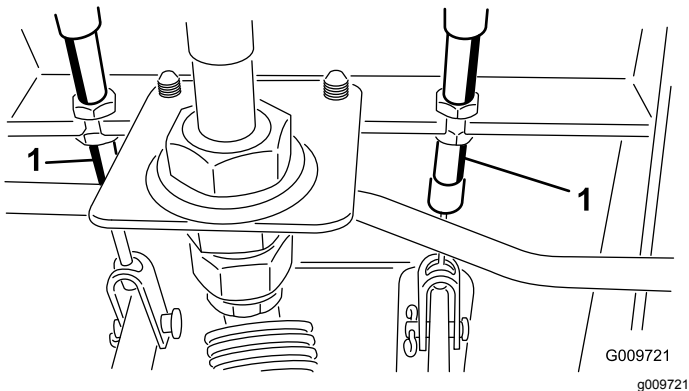

Figure 54
- A. Loosen the front nut on the threaded end of the brake cable (Figure 54).